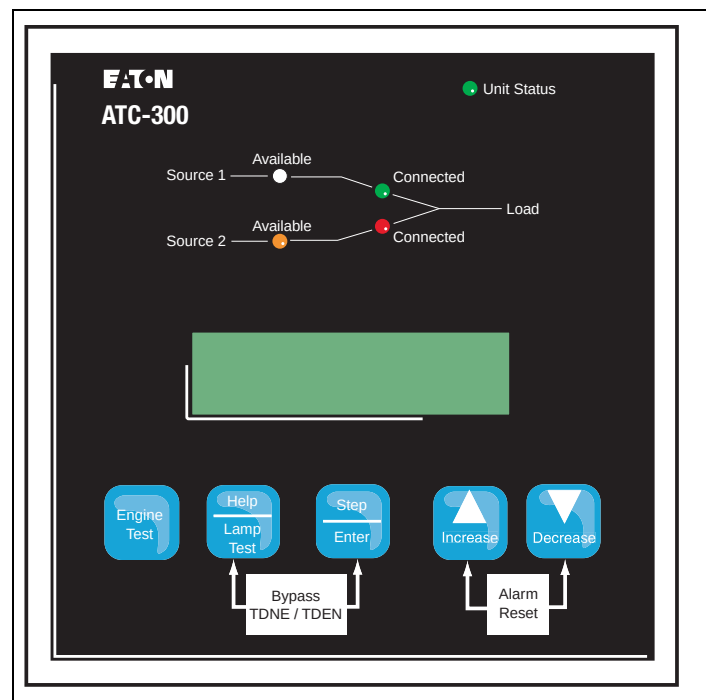

Figure 44. ATC-300.
Step 9: Initiate a Load Test from the front panel of the ATC-300 (Figure 44). This may be done by setting the engine test setpoint to: